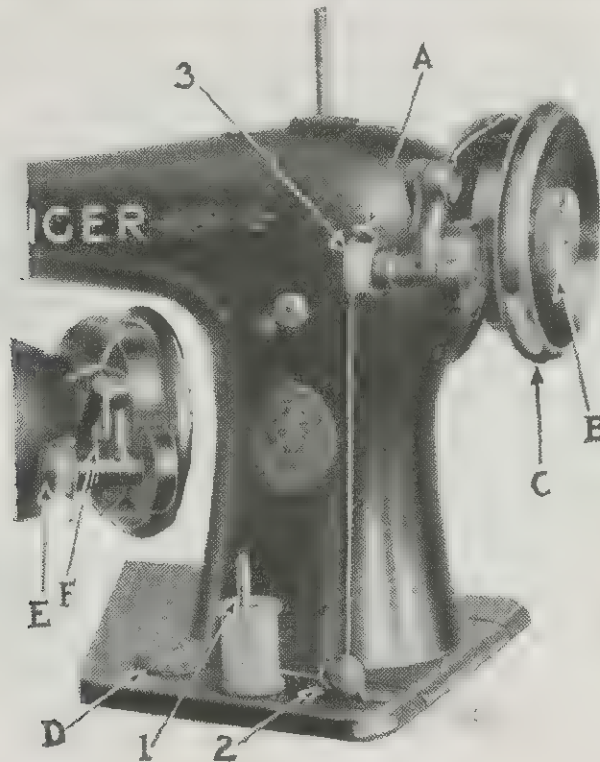

FIG. 12. WINDING THE BOBBIN
It is necessary to understand the stop motion (B, Fig. 12) by which the balance wheel (C, Fig. 12) can be released when required, thus permitting the winding of bobbins without running the stitching mechanism.
To release the balance wheel (C, Fig. 12) turn the stop motion screw (B, Fig. 12) over toward you. It is necessary to hold the balance wheel while loosening the stop motion screw.
Place the bobbin on the bobbin winder spindle (E, Fig. 12) and push it up closely against the shoulder, having the small pin in the shoulder enter the hole in the side of the bobbin. Put the spool of thread on the spool pin (1, Fig. 12) located on the bed of the machine at the right. Draw the thread under and between the tension discs (2, Fig. 12) on the bed of the machine at the right of the spool pin, then pass the thread through the hole in the left side of the bobbin (3, Fig. 12) from the inside.
Press down on the bobbin and the bobbin winder latch (A, Fig. 12) will drop down and hold the bobbin
If the pressure of the bobbin winder pulley against the hub of the balance wheel is insufficient for winding the bobbin, loosen the adjusting screw (F, Fig. 12) and press down on the bobbin winder until the pulley is in contact with the hub of the balance wheel, then tighten the adjusting screw (F).
The length of the stitch is regulated by the feed regulating disc (D, Fig. 12, page 11) located on the bed of the machine, at the right. This disc is marked with arbitrary numbers, ranging from 6 to 30, which indicate the various lengths of stitches that the machine will make, No. 6 being the longest stitch and No. 30 the shortest stitch. (The numerals do not denote the number of stitches to the inch). The length of stitch that the machine is ready to make is indicated by the number nearest the arrow marked on the cloth plate of the machine.